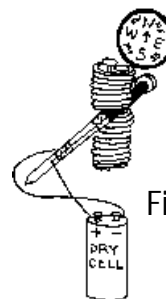

Figure 13
- To test the polarity of each end of the armature, place a compass at each end (*figure 13*) and note the needle compass direction.